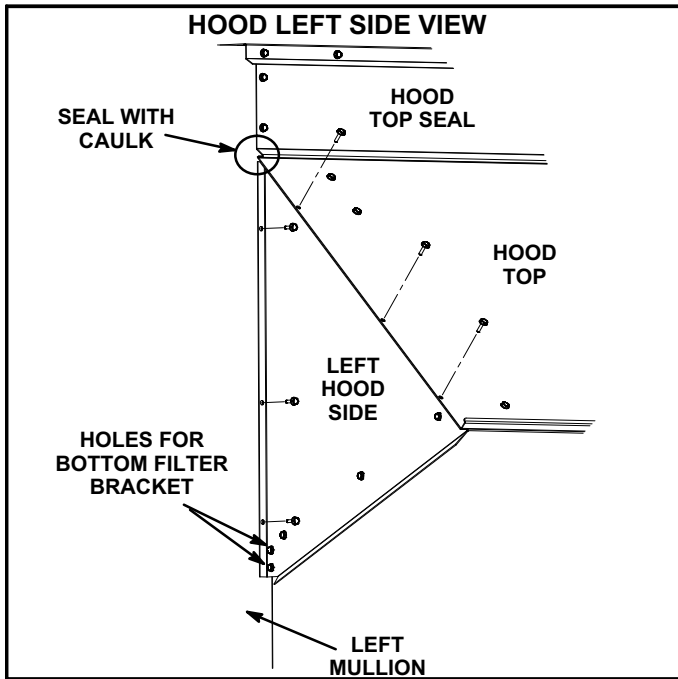

FIGURE 7
- 9- Secure left hood side to the hood top. See figure 7. Secure the left hood side to the unit using three screws removed in step 4. See figure 7.
- 20- Caulk (field-provided) both ends of the top seal and hood top as shown in figures 7 and 8.